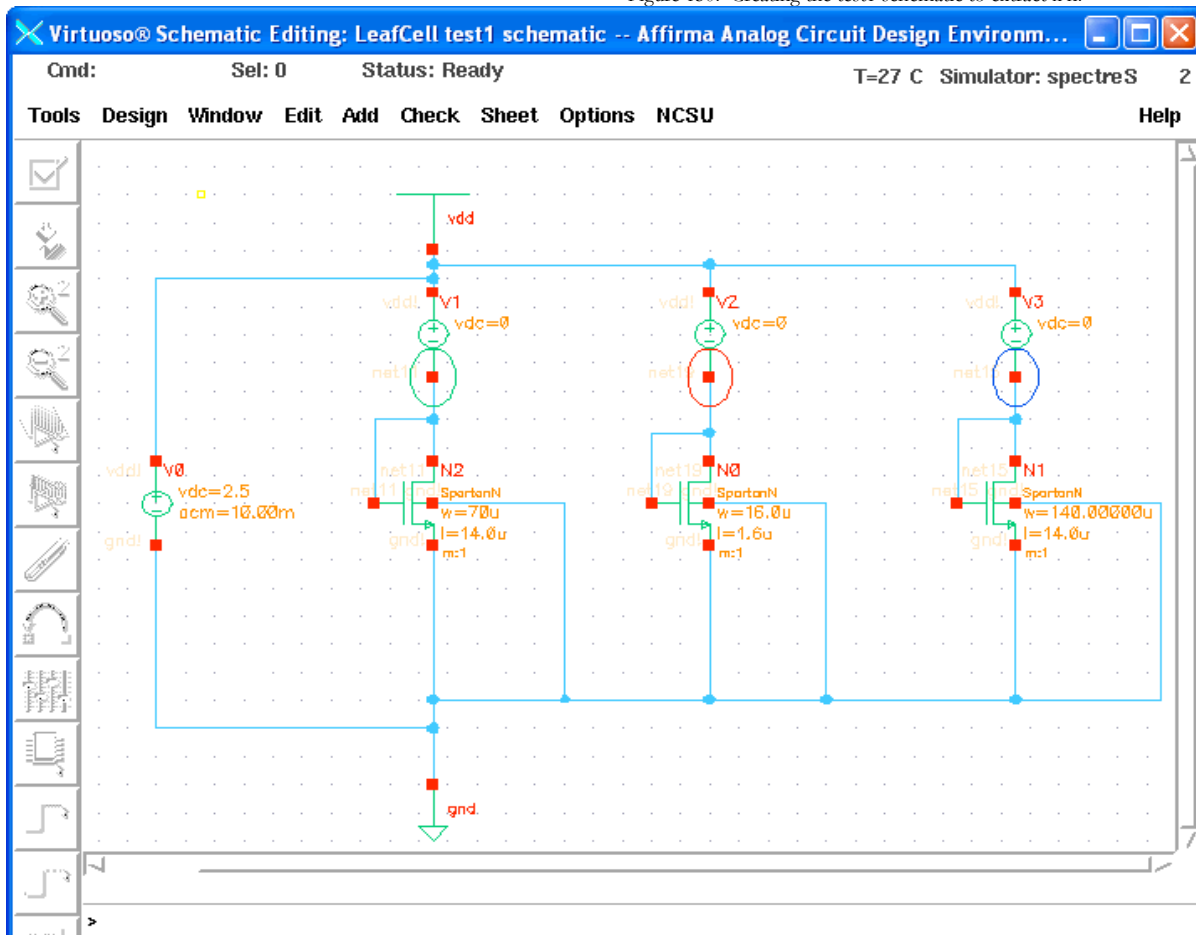

Figure 151: test1 schematic.
16. Click at the *OTA*, then the *OTA* will be highlighted, and another *Descend window* (Figure 151) pops up asking you for the correct view. Make sure it is the schematic view and
2. Create the test schematic for NMOS as in Figure 151. *Check and Save* it.